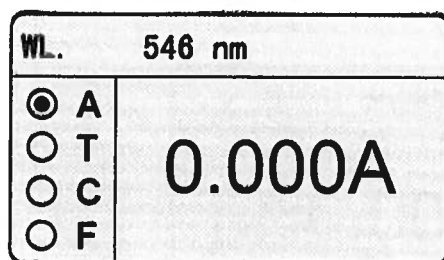

Fig. 4-1
1) Press  to choose A mode (Fig.4-1);